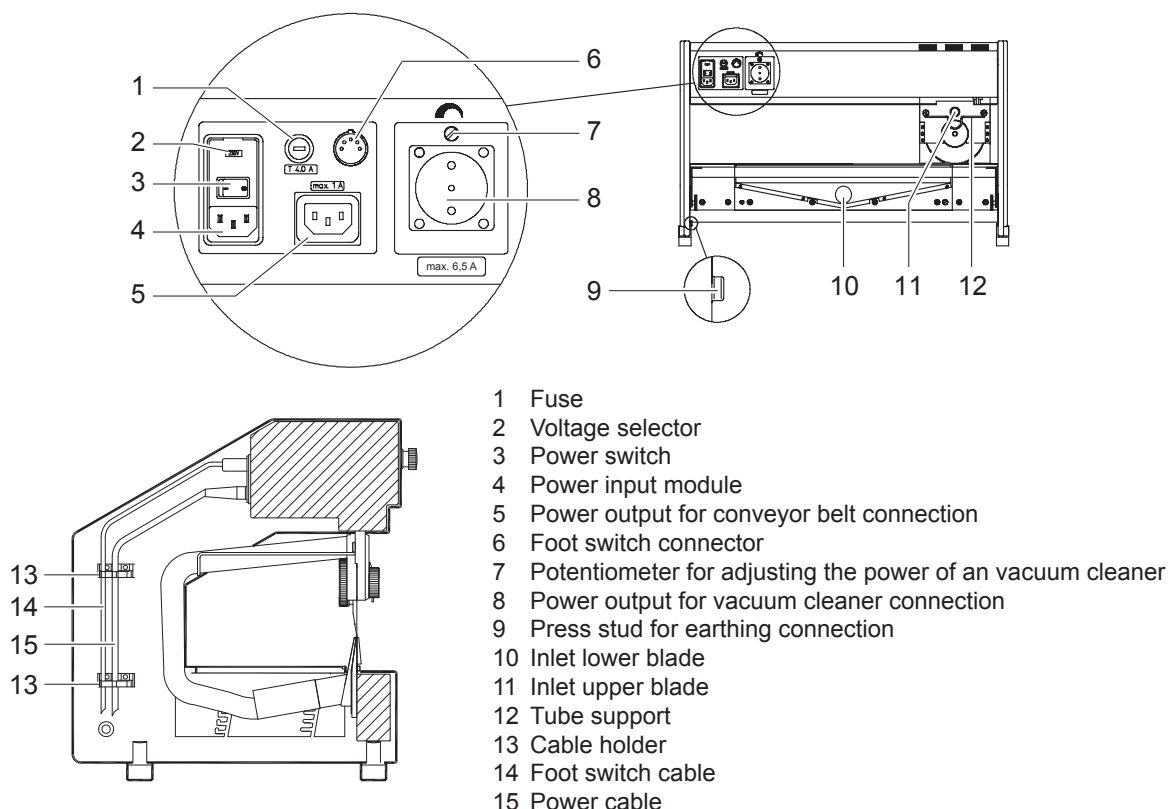

Fig. 4 Connections
► Attach the power cable (11) and the cable (10) from the foot-switch using the cable holders (9) on the inner side of the machine frame.
- Put the Y-piece (5 / fig. 3) on the inlet (10 / fig. 4) on the lower blade.
- Connect the side junction of the Y-piece to the inlet (11 / fig. 4) on the upper blade using the suction tube (6 / fig. 3). Insert the suction tube into the support (12 / fig. 4).
- The current load of the power output (8 / fig. 4) for the vacuum cleaner may not exceed 6.5 A.
- Connect the power plug of the vacuum cleaner to the socket (8 / fig. 4) at the back of the MAESTRO 4M clean.